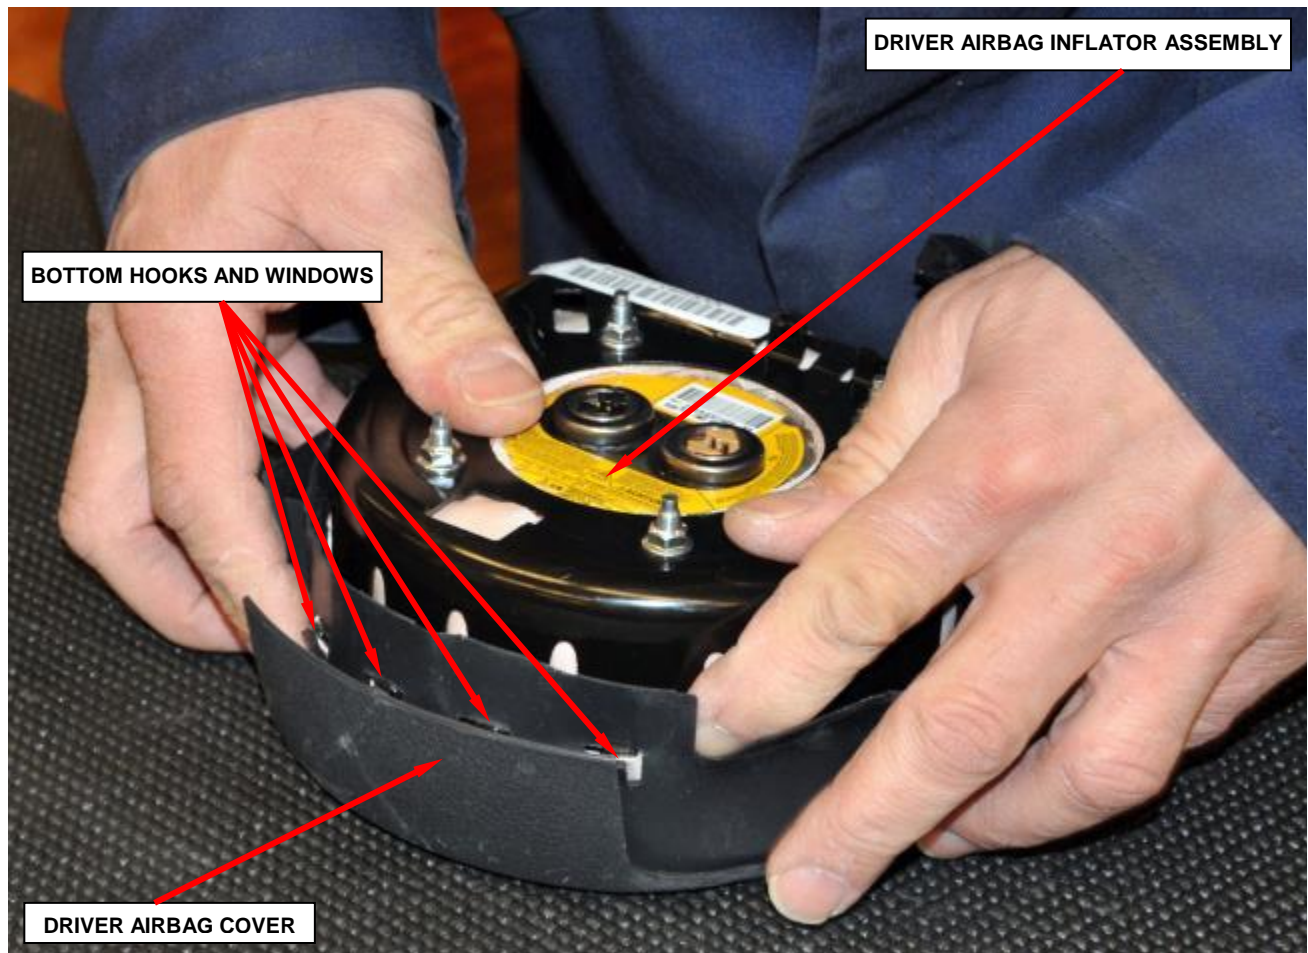

Figure 22 - Verify Hook and Window Engagement
19. Pull on the driver airbag inflator assembly to fully engage the hooks and windows on all sides of the driver airbag cover (Figure 22).